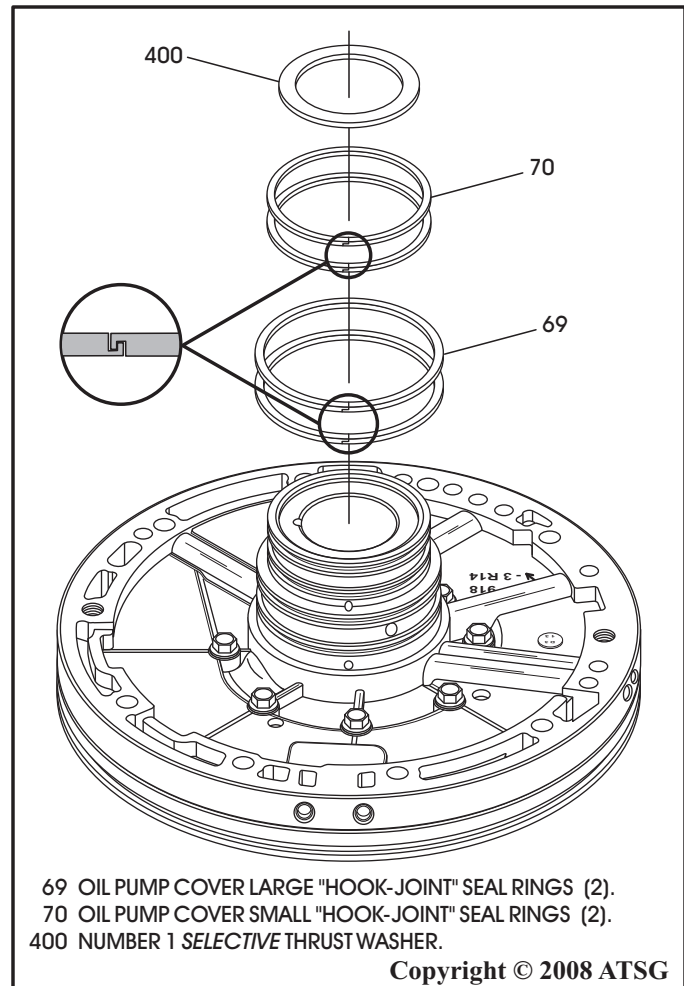

Figure 85
16. Install the four steel hook-joint sealing rings, as shown in Figure 85, and ensure that they are hooked properly and rotate freely in their grooves.
17. Install the number 1 selective thrust washer on pump tower, as shown in Figure 85, and retain with a small amount of Trans-Jel®.